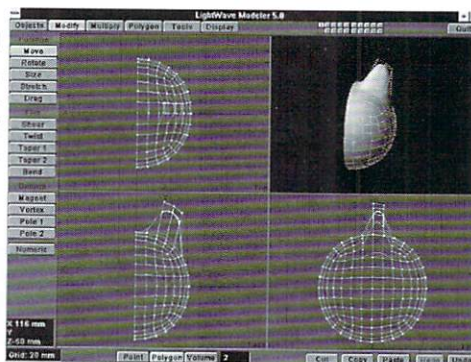

Figure 1
- Using the Move Tool (Modify Menu) in the Face View, move the polygons up and to the right (Figure 1), or press the (n) key to use the numeric requester (8 mm, 40 mm, 0 mm). To make the ear a bit wider at the top, use the Stretch Tool (Modify Menu). Placing the cursor right in between the two selected polygons in the Top View, press the left mouse button, and move the cursor slightly to the right. Or numerically, stretch on the X axis with a factor of 1.55, and a center of (46 mm, 0 mm, 6 mm). Then deselect the polygons.